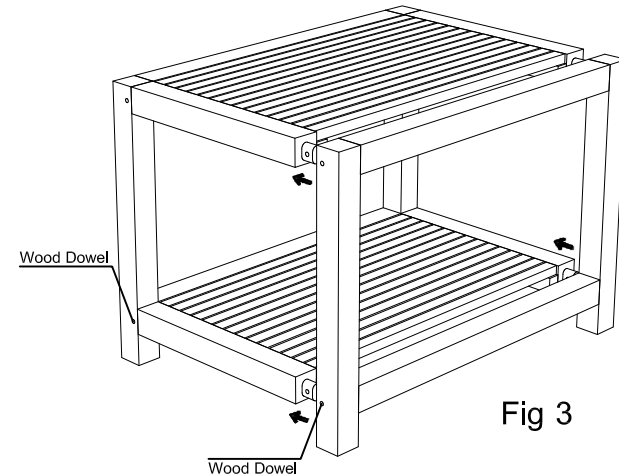

Fig 3
3. Insert the other leg, Put some glue around the wood dowels and insert into hole of leg. (Fig. 3)